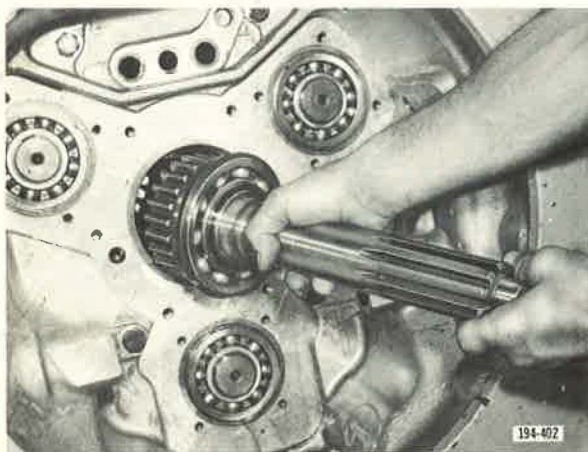

Figure 39. Installing Main Drive Pinion Assembly
4. Install main driving pinion assembly into place. See Figure 39.